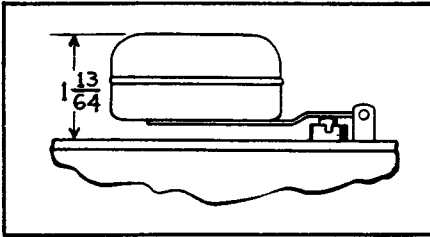

Fig. 238 Float Adjustment
11. With the throttle body inverted and the float lever holding the needle valve on its seat, check the distance from the throttle body flange to the top of each float. This dimension should be 1-13/64" (Figure 238).